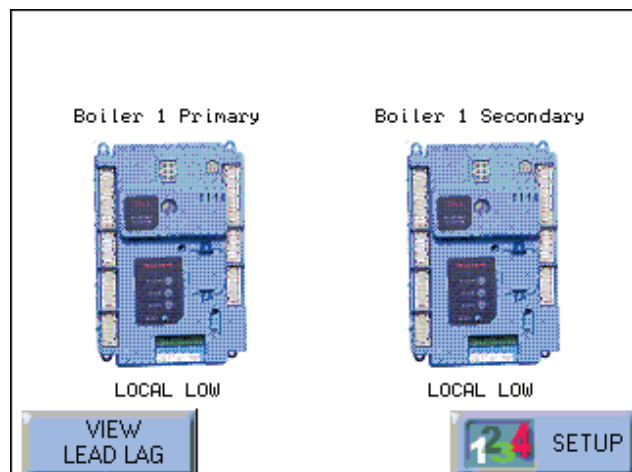

Fig. 82 – Home Screen
1. From the Home screen (Fig. 82), press the View Lead Lag button.